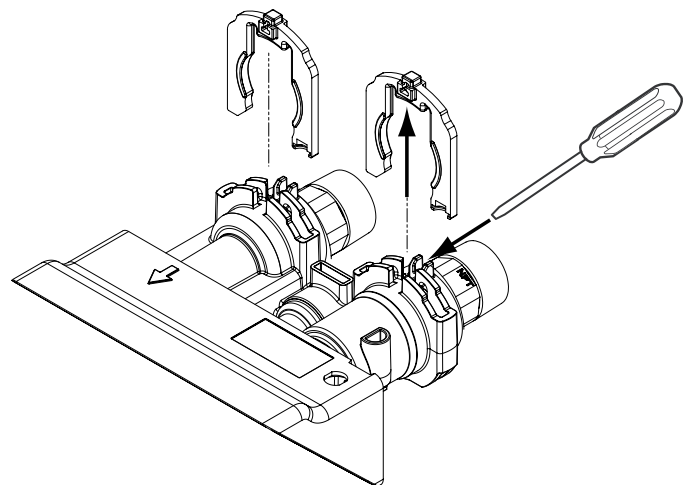

Figure 4 Connector Assembly
3. Remove the clip by inserting a flat blade under the top center of the clip and lifting (prying up) (Figure 4 Connector Assembly).
The drain line flow control (DLFC) requires assembly (Figures 4 and 5).